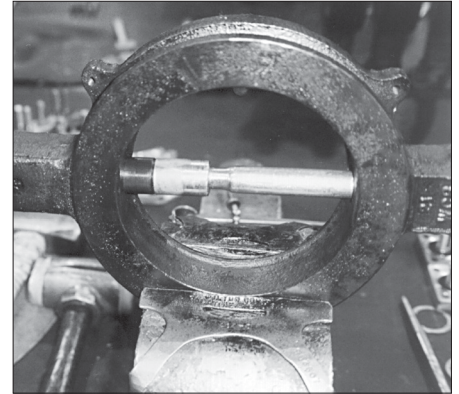

Figure 5 - Partial insertion of the shaft bearing.
2. To avoid damaging the shaft bearing (8), gently press the bearing into the shaft body journal by lightly striking the bearing (8) with a rubber mallet.
3. Once the shaft bearing (8) has been partially inserted into the valve body journal, insert the installation/removal tool against the upper shaft bearing. (see Figure 5)